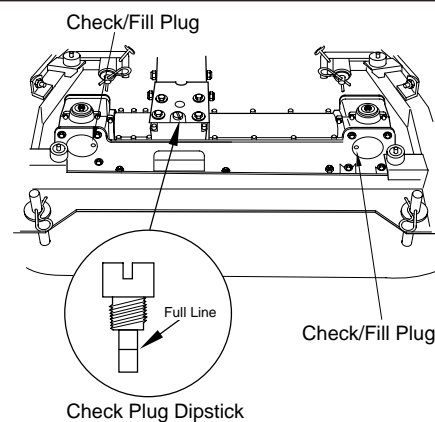

Figure 7-12 Cutter Deck Gearboxes
The fluid level in the cutter deck gearboxes (Figure 7-12) should be checked after every 100 hours of operation or bi-weekly, whichever occurs first.
2. Clean and remove the check plug dipstick from the center gearbox (Figure 7-12). Visually check the fluid level on the dipstick. The fluid level must be between the full line and bottom of the dipstick. If the fluid level is low, fill gearbox through the check plug port with Mobil SHC630 lubricant. Install the check plug dipstick and tighten securely.
3. Clean and remove the check plug from the left gearbox (Figure 7-12). Check that the lubricant level is up to the bottom edge of the check plug hole. If lubricant is low, add Mobil SHC630 lubricant through the hole in the top of the gearbox until it is level with the bottom of the check plug hole. Install the check plug and tighten securely.